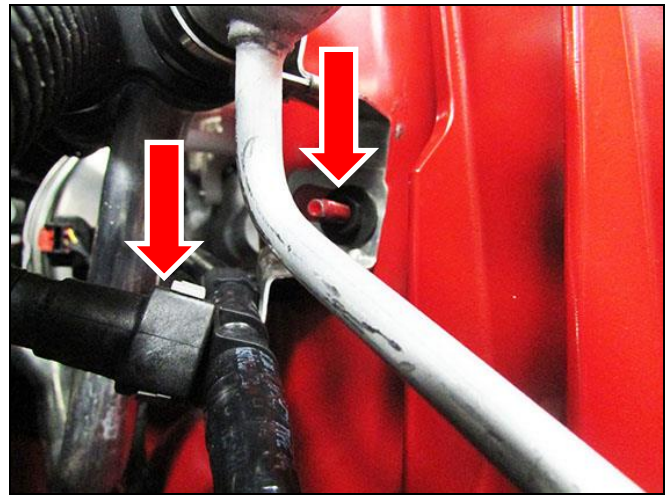

Figure 8
15. Remove the (x2) 10mm head nuts securing the A/C line to the chassis. Unplug hose on **Figure 8**.
26. Using the (x2) 10mm head nuts removed from step 15, secure the A/C line back onto the chassis and plug the hose back from **Figure 8**.